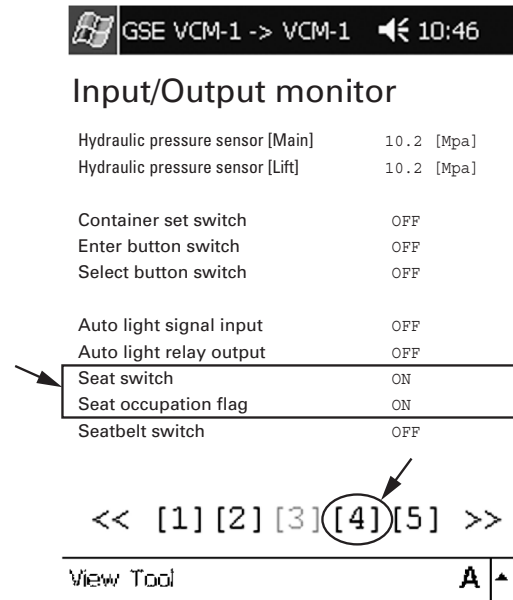

Fig. 1 I/O Monitor [4]
- (1) Connect service tool to VCM-1.
- (2) Turn the key to ON position and start the engine.
- (3) Display page [4] of Input/Output (I/O) Monitor on the service tool.
- (4) Sit on the operator’s seat. Make sure the status of Seat Switch and Seating Flag is ON in the I/O monitor screen (Fig. 1).